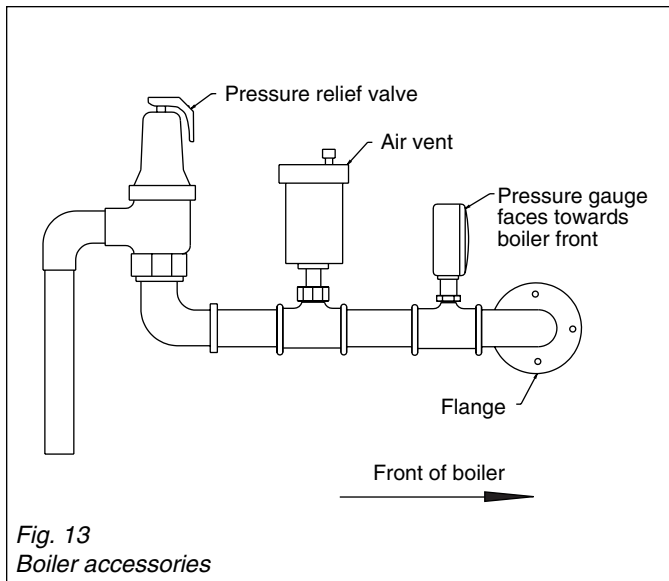

Fig. 13
Pressure relief valve, pressure gauge, drain cock and fittings are packed separately. Refer to Fig. 13. Install relief valve and pressure gauge into upper flange with 1" tapping. Install drain valve into lower flange with ¾" tapping.
6.1 Installation of pressure relief valve (see Fig. 13)
A discharge pipe the same diameter as the pressure relief valve discharge opening must be rigidly installed directly onto the pressure relief valve. The discharge should extend to the floor drain and end approximately 6" above drain. Do not install a shut-off valve in discharge piping. Do not pipe discharge outdoors. Refer to Fig. 13.